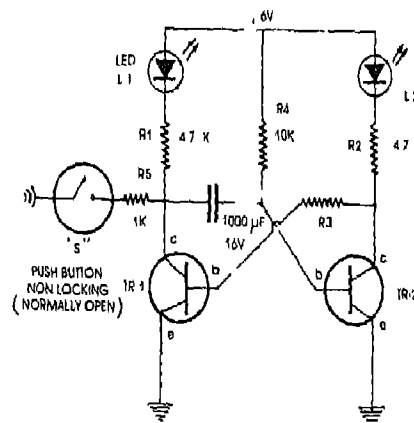

Fig. 17.1
1. Connect the different circuit elements as shown in the circuit diagram. (Fig. 17.1)